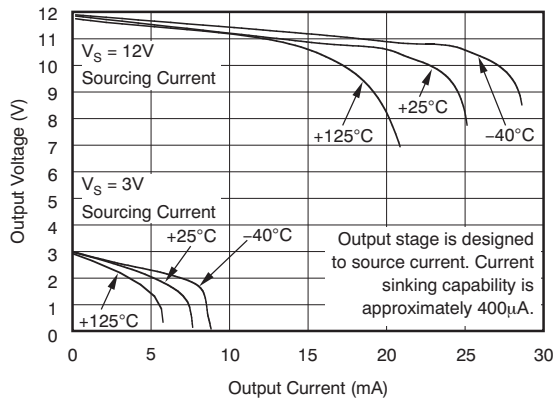

Figure 7. Positive Output Voltage Swing vs Output Current
(1) Total output error includes effects of gain error and VOS.
(2) For details on this region of operation, see the *Accuracy Variations as a Result of VSENSE and Common-Mode Voltage* section.
(3) See Typical Characteristic curve *Output Swing vs Output Current*, Figure 7.
(4) Specified by design.